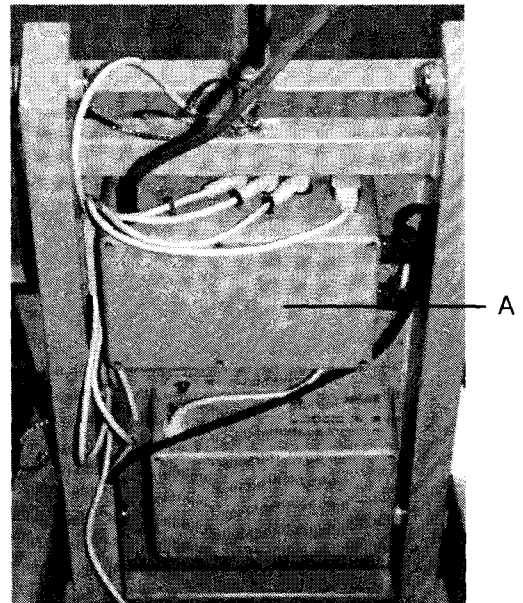

Figure 1
- 5 Remove the 4 clips securing the cover plate of the power unit (A) (refer to figure 1).